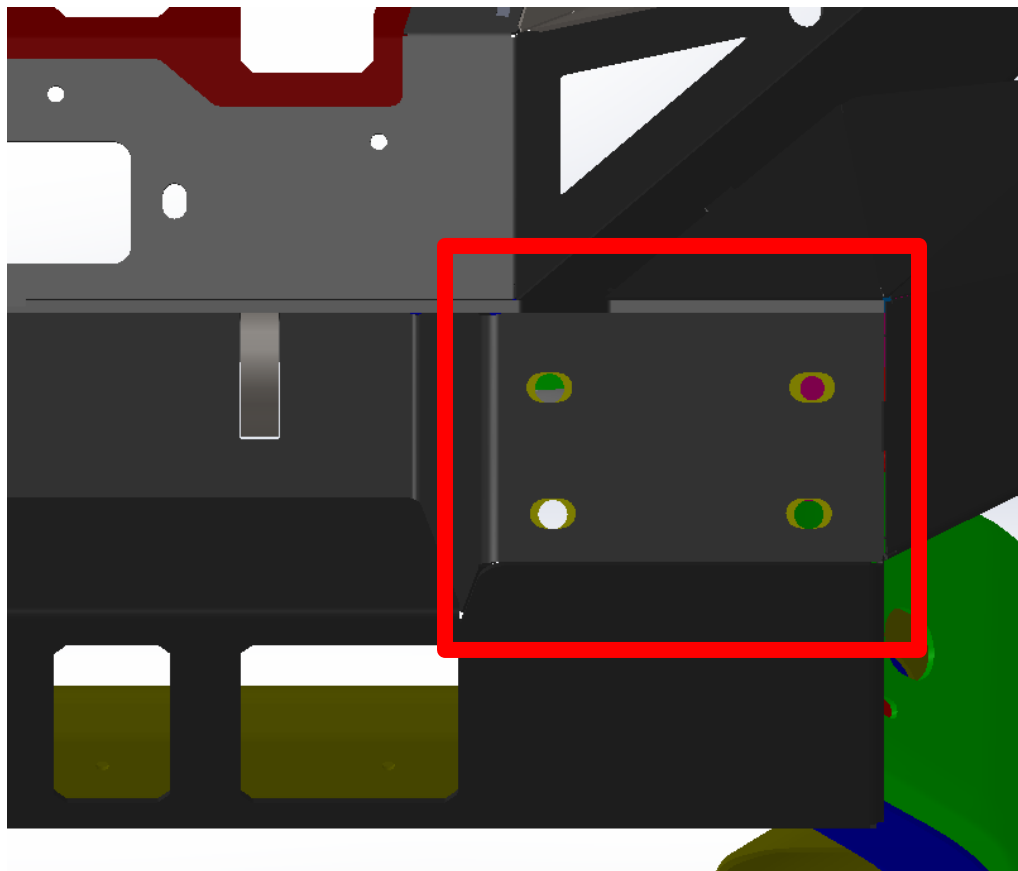

Figure 9
2. Lift Grumper and align mounting studs with holes in frame face plate (ref. figure 9).